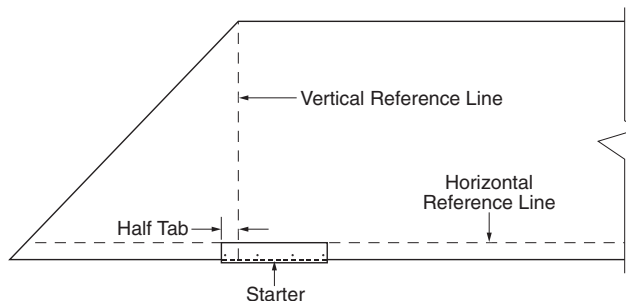

Figure 9-1: Starter strip overlapping the vertical reference line.
3. Install starter strips as directed in the application instructions for the shingle being applied. Overlap the vertical reference line by the measured half tab-length portion of the shingle instead of cutting it off. The starter strip should extend the entire length of the eaves (see Figure 9-1).